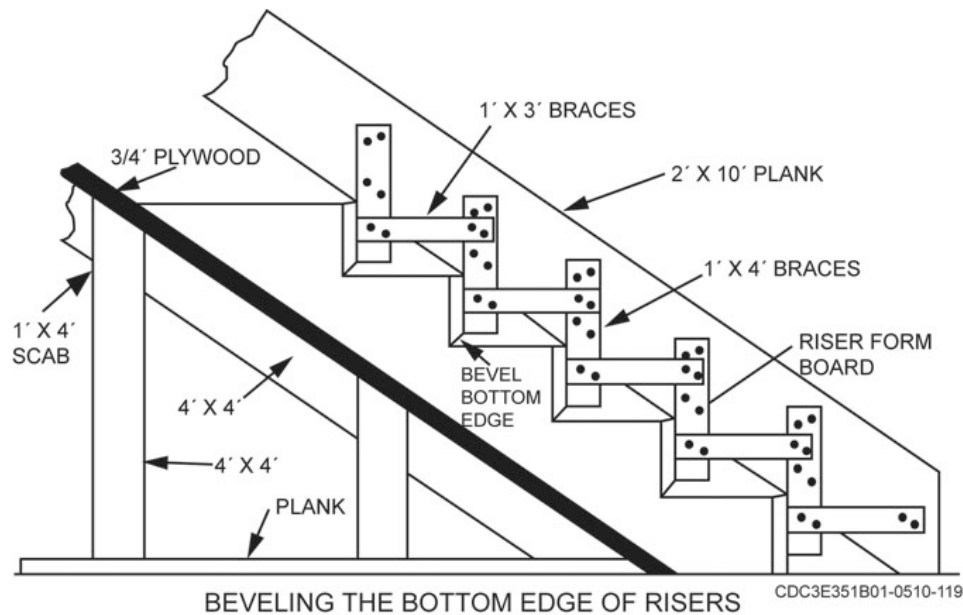

Figure 1-27. Beveling the bottom edge of risers.
3. Bevel the planks on the bottom edge so that you can trowel the whole tread surface (fig. 1-27).